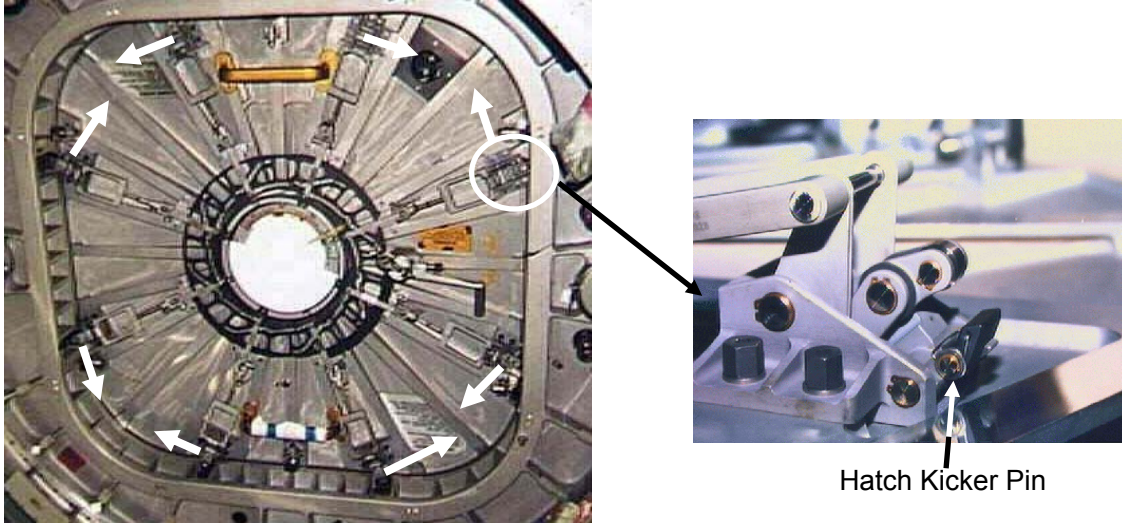

Figure 1.- Hatch Kicker Pin Location.
1.4 Check Hatch kicker pins (eight) slid toward the closest Hatch corner. Refer to Figure 1.